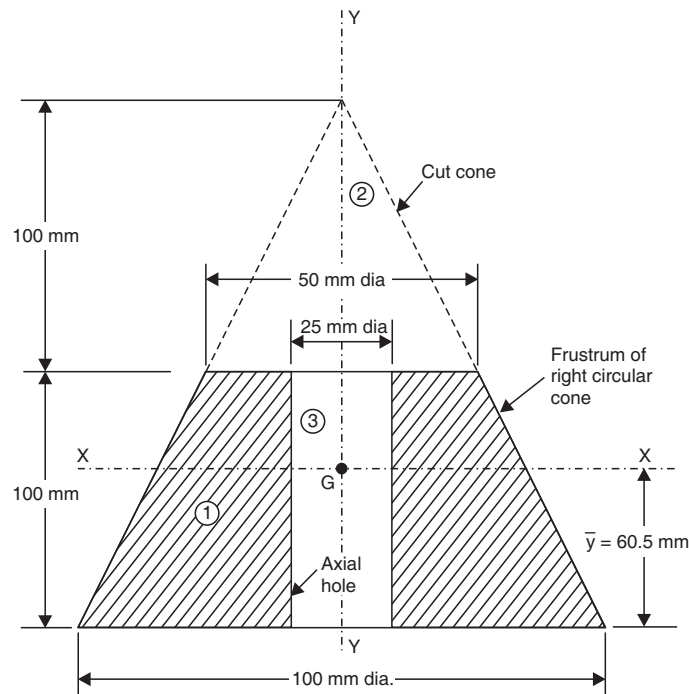

Fig. 4.42
**Sol.** Refer to Fig. 4.42. The frustrum of cone can be obtained by removing cone (2) of base diameter 50 mm and height 100 mm from another cone (1) of base diameter 100 mm and height 200 mm. The given solid will be obtained by removing a cylinder of (3) of diameter 25 mm and height 100 mm from this frustrum.